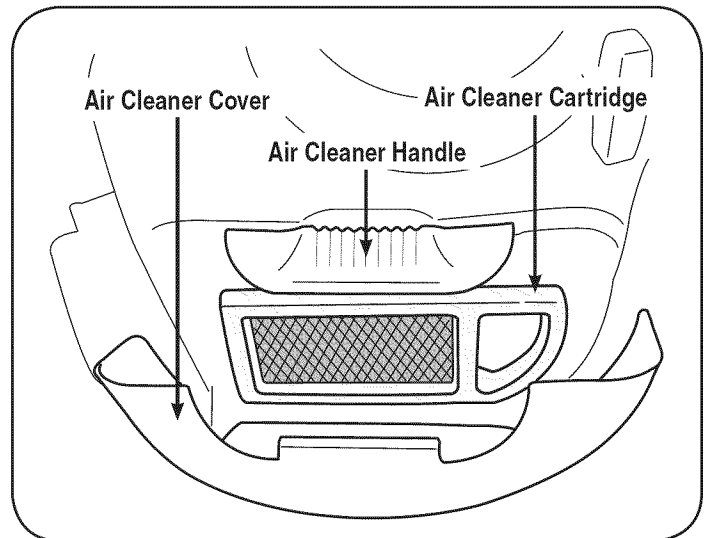

Figure 16
- Remove the air cleaner cover, Figure 16.